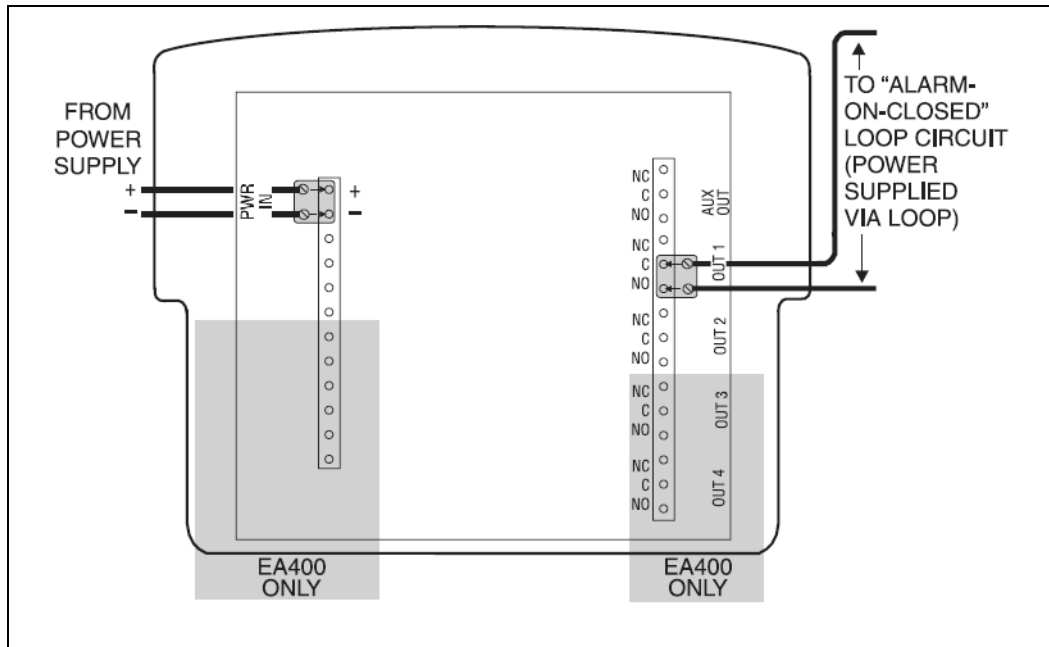

Figure 8. Typical Alarm Loop Wiring Configuration (External Power)
3. Connect the alarm loop leads to the Terminal Block Adapter. Attach the adapter to terminals C and either NC or NO on the appropriate circuit board header connector. See Figures 8.
Figures 8 shows a typical alarm loop wiring configurations. Figure 8 shows an alarm loop where alarm power is derived from the alarm loop.